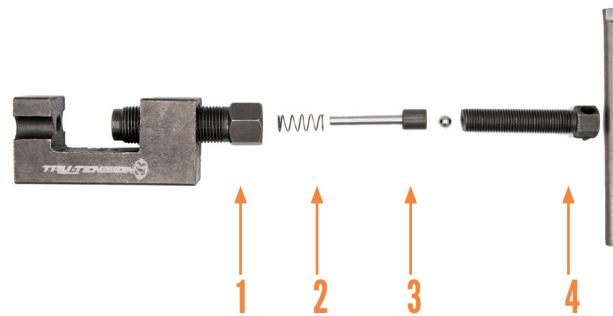

fig. 2
4.1.2. Select correct size breaking tip (fig.2.3) for the chain to be worked on, position spring as shown fig.2 and insert into alignment bolt (fig.2.1). Assemble tool as shown in fig.2 (Anvil not used).